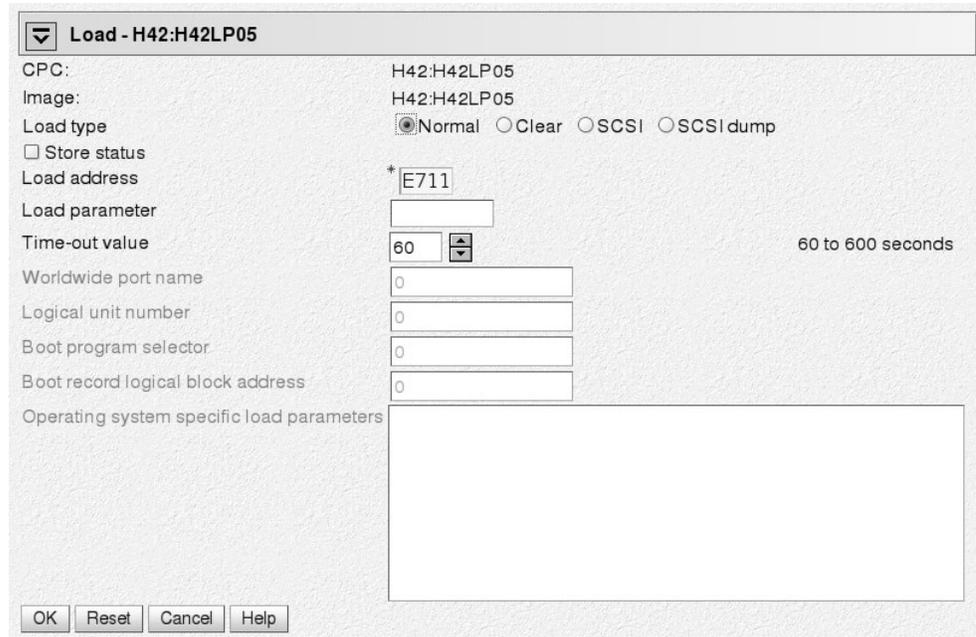

Figure 67. Load panel for booting from tape or DASD
- Select **Load type** “Normal” (see Figure 67 on page 357).
- a. Select **Load type** “Normal” (see Figure 67).